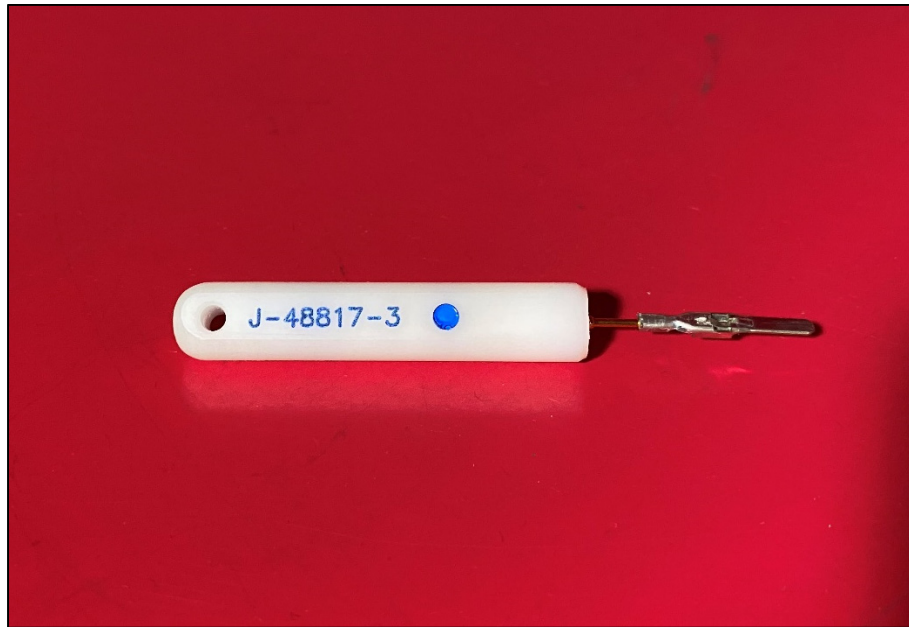

Figure 2
- Special tool spread terminal gauge J-48817-3 (Figure 2).